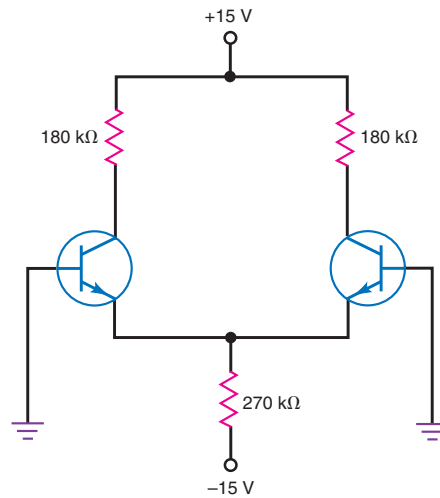

Figure 33-58
- 33.23 What are the ideal currents and voltages in Fig. 33-58?